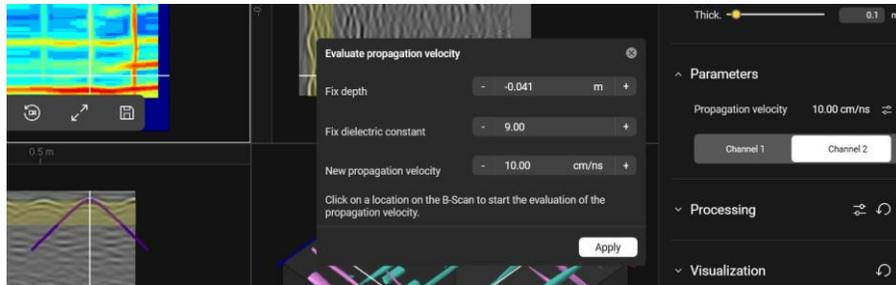

Fig. 29 Hyperbola fitting for Velocity Adjustment
b. **Parameters:** including Propagation Velocity adjustment by pressing the  (default is 10cm/nsec), and Channel (HH or VV). Also, User is enabled to perform hyperbola fitting to customize the EM Propagation velocity (Fig. 29, Fig. 30),